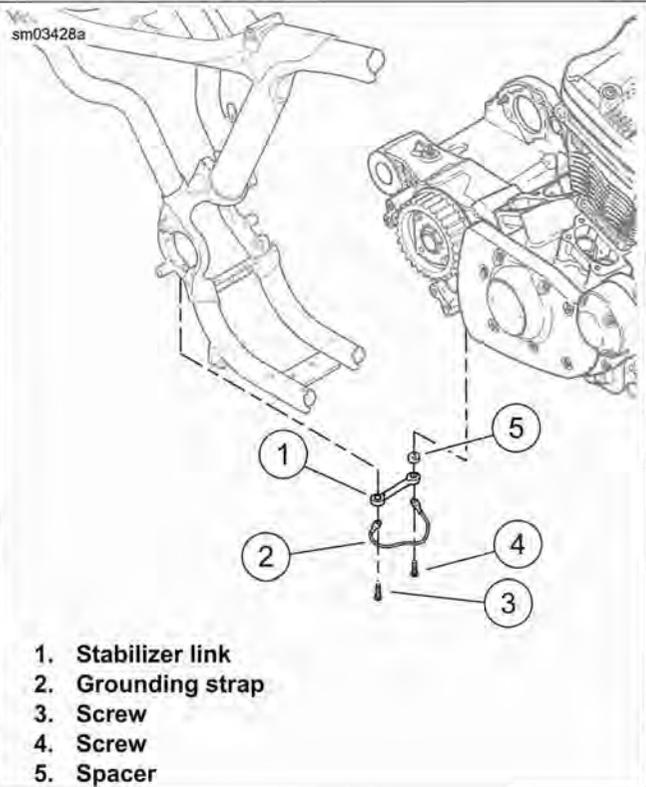

Figure 2-169. Rear Stabilizer Link Assembly (typical)
2. See Figure 2-169. Remove short screw (3), long screw (4), ground strap (2), stabilizer link (1) and spacer (5).
1. See Figure 2-169. Install short screw (3) through ground strap (2) and stabilizer link (1). Thread screw into frame on right side of motorcycle. Do not tighten at this time.
2. Install long screw (4) through ground strap, stabilizer link and spacer (5) into engine case.
9. See Figure 2-169. Remove screw (4) from left end of rear stabilizer link (1) and ground strap (2). Remove spacer (5).
7. See Figure 2-169. Install screw (4) through free end of ground strap (2), rear stabilizer link (1), spacer (5), and into engine crankcase. Tighten to 25-35 ft-lbs (33.9-47.5 Nm).
13. See Figure 2-169. Remove screws (3, 4) securing rear stabilizer link (1). Remove stabilizer link, ground strap (2), and spacer (5).
9. See Figure 2-169. Install short screw (3) through ground strap (2) and rear stabilizer link (1) into frame on right side of motorcycle. Install long screw (4) through free end of ground strap, stabilizer link and spacer (5) into engine case. Tighten both screws to 25-35 ft-lbs (33.9-47.5 Nm).